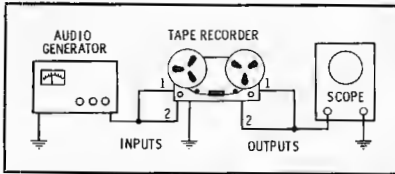

Fig. 4. Test setup for stereo alignment.
1. Connect the outputs of channels one and two together and apply them to the vertical input of the scope (Fig. 4).